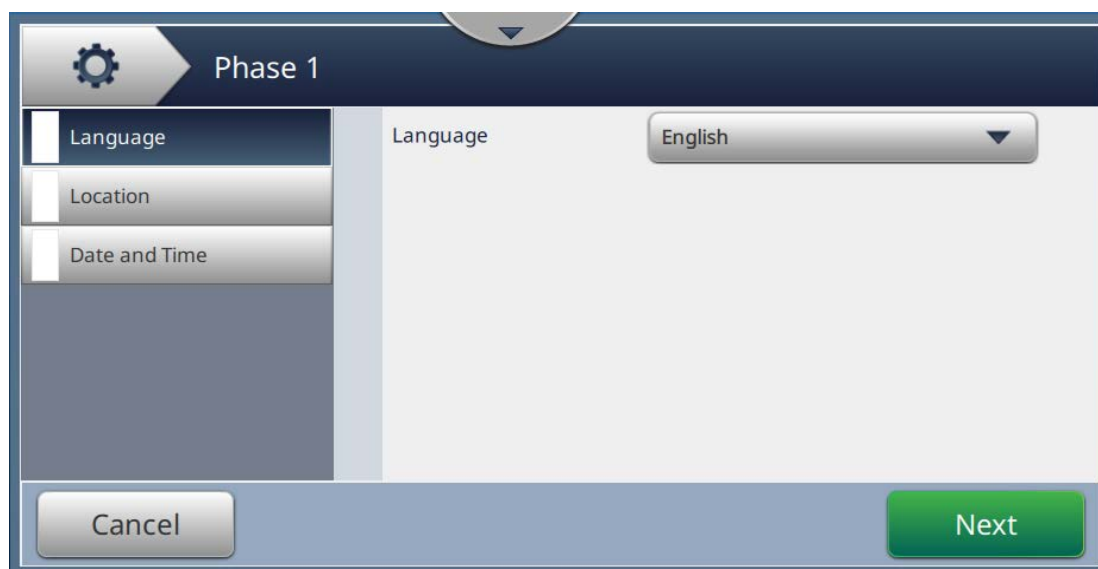

Figure 6-25: Installation Screen
1. Touch the  button from the Tools screen. The Installation screen opens as shown in the Figure 6-25.